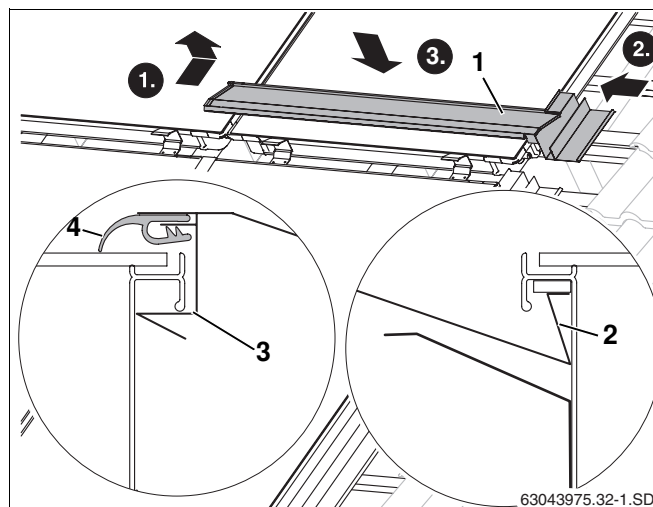

Fig. 52 Inserting first middle facing collector
- Insert the upward fold on the facing collector (Fig. 52, **Item 2**) into the recessed grip on the collector frame.
- Feed facing collector (Fig. 52, **Item 1**) towards the collector and into the side facing collector on the right.
- By applying pressure to the top of the facing collector, it clicks under the recessed channel on the collector frame (Fig. 52, **Item 3**).
- Place the rubber lip (Fig. 52, **Item 4**) on top of the collector.